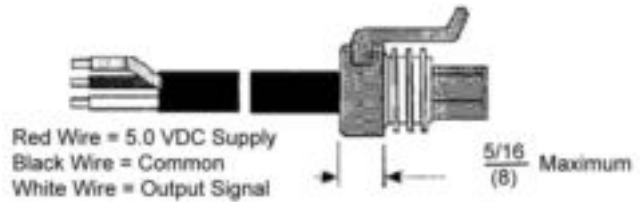

FIGURE 4 - wire harness assembly
5. Attach wiring harness plug to (P399) transducer. Route sensor wires with the discharge pressure switch wires back to control box. Run wires through the bushing (provided), using knock out located near the control in the bottom of the unit control box. See Figure 4.